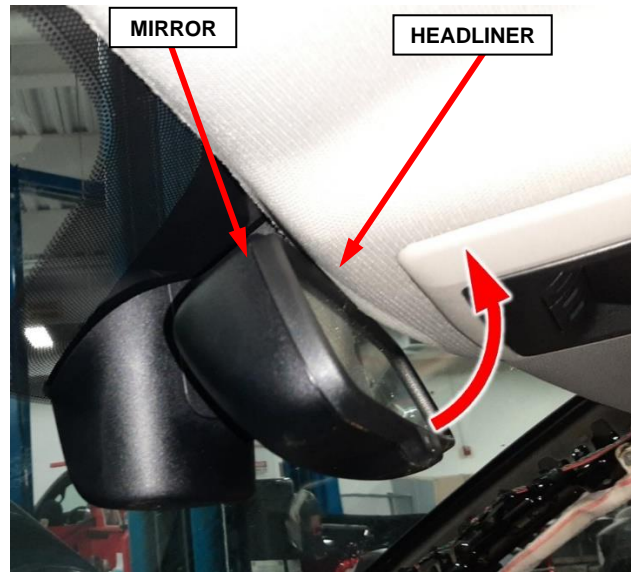

Figure 58 – Rearview Mirror
22. Tilt the rear view mirror up to allow clearance for lowering the headliner (Figure 58).
42. Tilt the rear view mirror down to allow it to support the headliner (Figure 58).